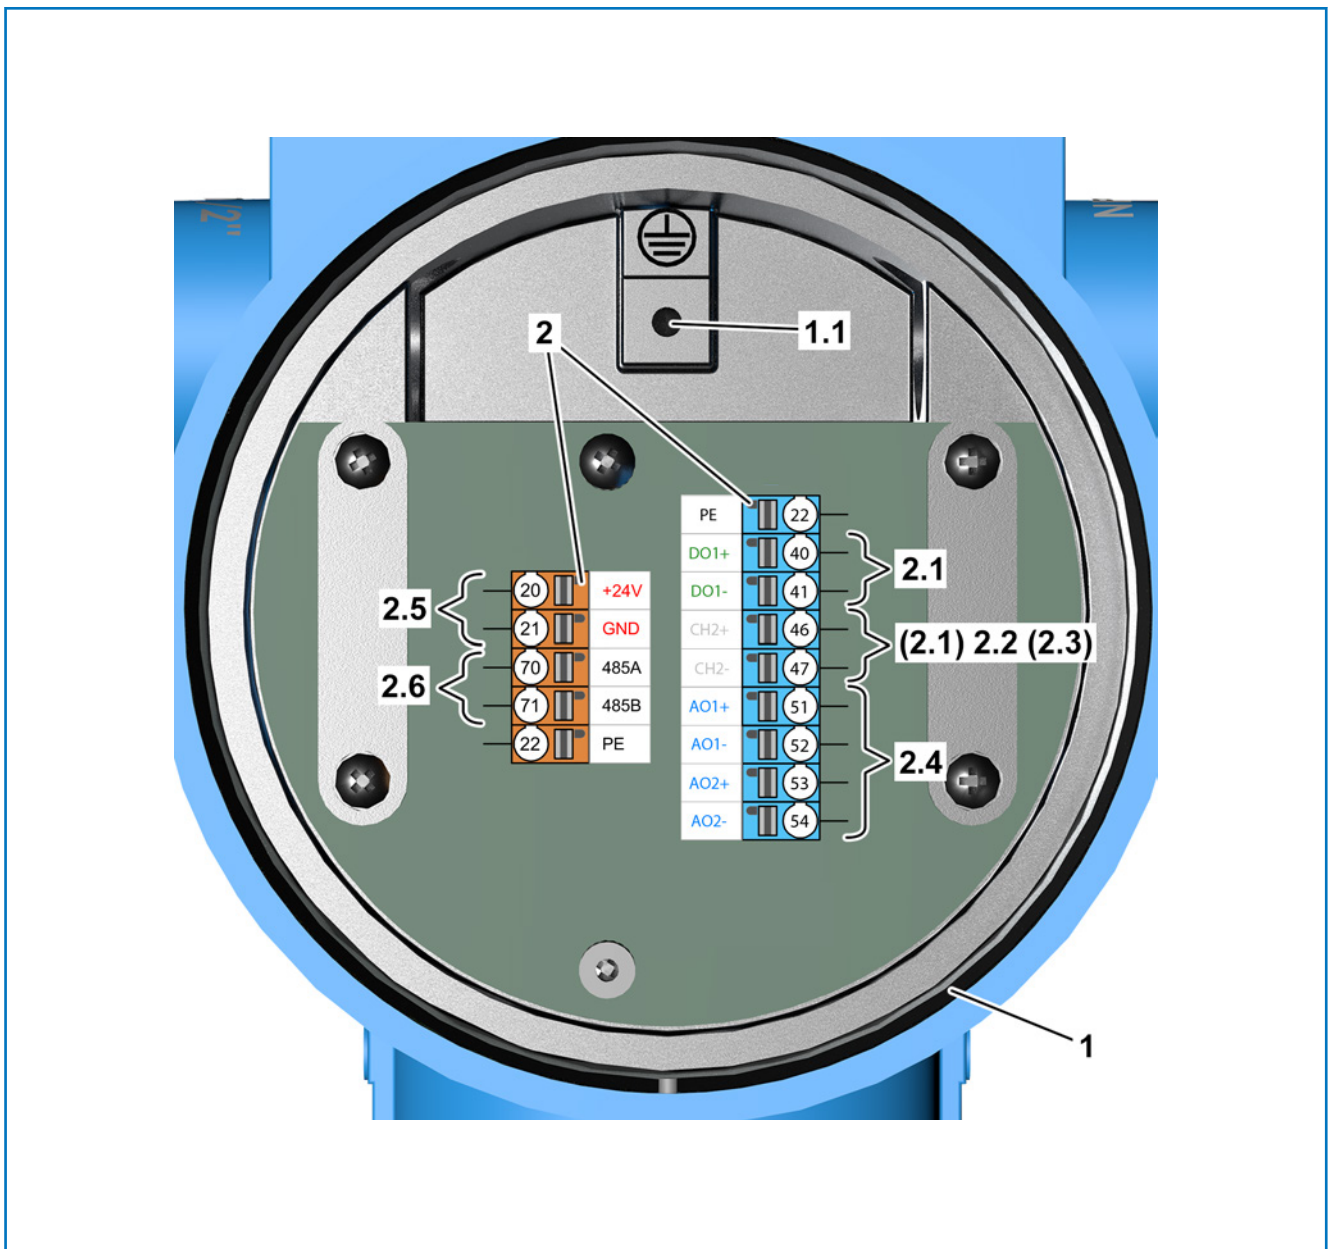

Fig. 8: Wiring diagram for RHE42-R* Coriolis transmitter (intrinsically safe)
- → Figure 8: Wiring diagram for the RHE42-R* \(intrinsically safe\)